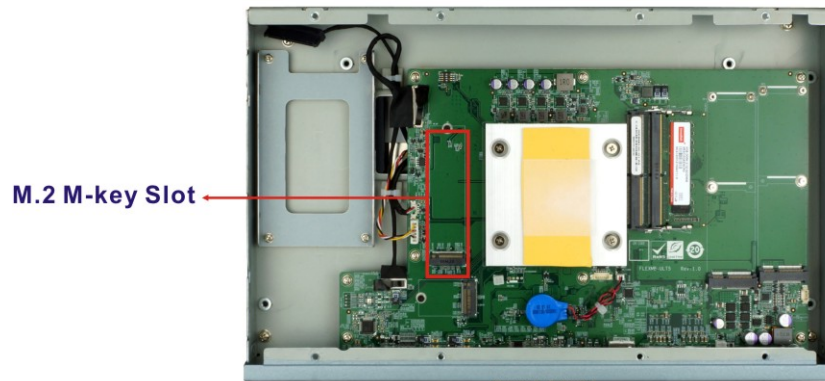

Figure 3-8: M.2 Slot Location
- Step 2:** Locate the M.2 slot as shown in Figure 3-8.